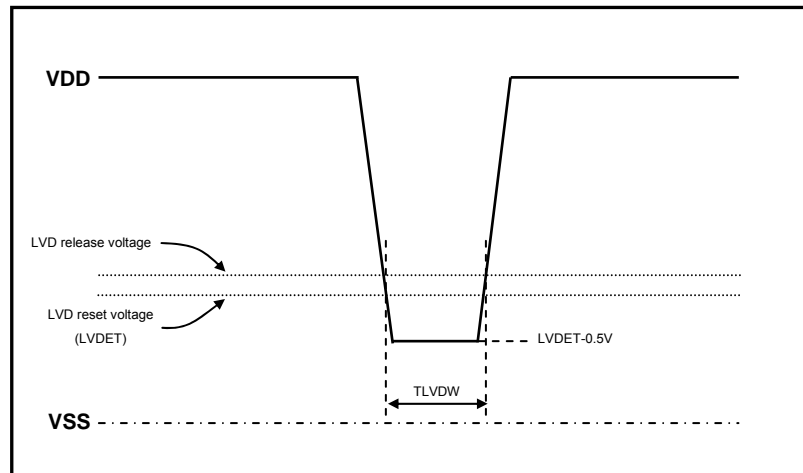
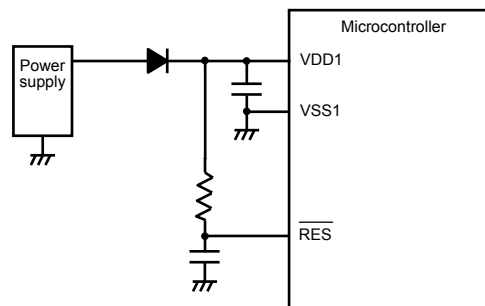

Figure 4.7.4 Example of Momentary Power Loss / Voltage Fluctuation Waveform
Figure 4.7.5 Example of Momentary Power Loss / Voltage Fluctuation Countermeasures
- 3) When momentary power loss or voltage fluctuations shorter than several hundreds μs are anticipated The response time measured from the time the LVD detects a power voltage drop at the option-selected level until it generates a reset signal is defined as the minimum low-voltage detection width TLVDW shown in Figure 4.7.4 (see “SANYO Semiconductor Data Sheet”). If momentary power loss or power voltage fluctuations shorter than this minimum low-voltage detection width are anticipated, be sure to take the preventive measures shown in Figure 4.7.5 or other necessary measures.